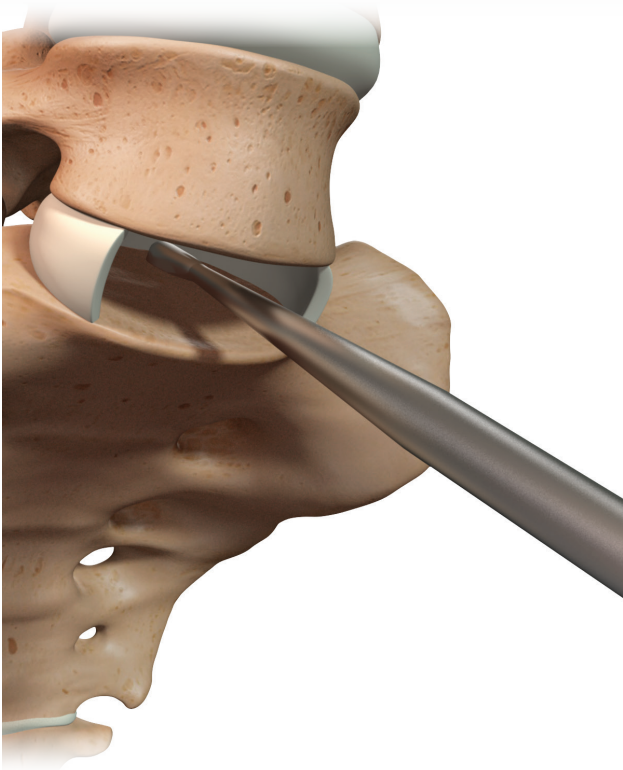

Figure 3
- Use the surgeons preferred anterior discectomy instruments and distraction method. Use a curette to clean the disc space. Scrape the cartilaginous endplates without perforating the bony endplates. Move the curette from side to side to avoid slipping out of the disc space and causing damage to vessels or intra-abdominal structures. Make certain the endplates are well cleaned and bleeding bone has been exposed laterally, posteriorly and on the anterior lip (Figure 3).